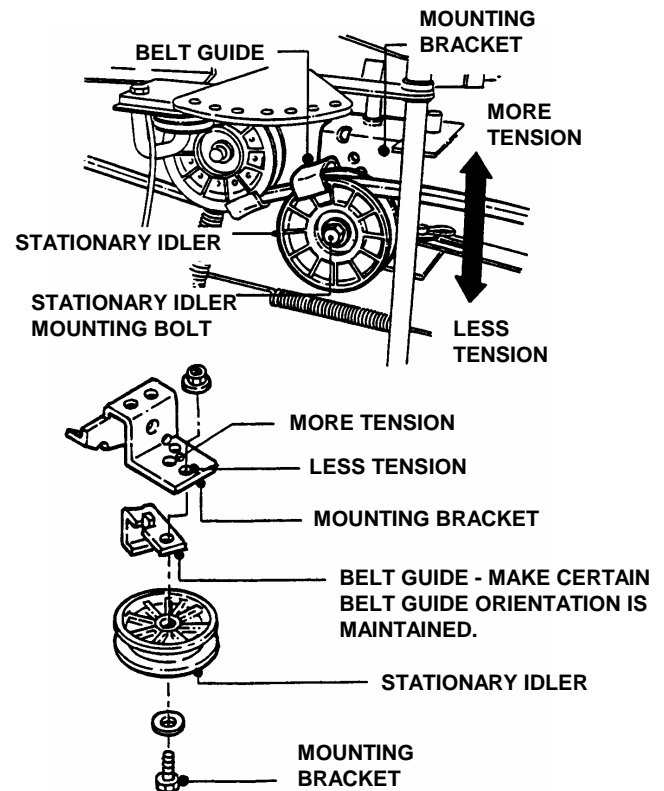

FIGURE 4.17
- Remove the traction drive belt stationary idler mounting bolt. See Figure 4.17.
NOTE: Should less tension be required move stationary idler towards right side of tractor. See Figure 4.17.